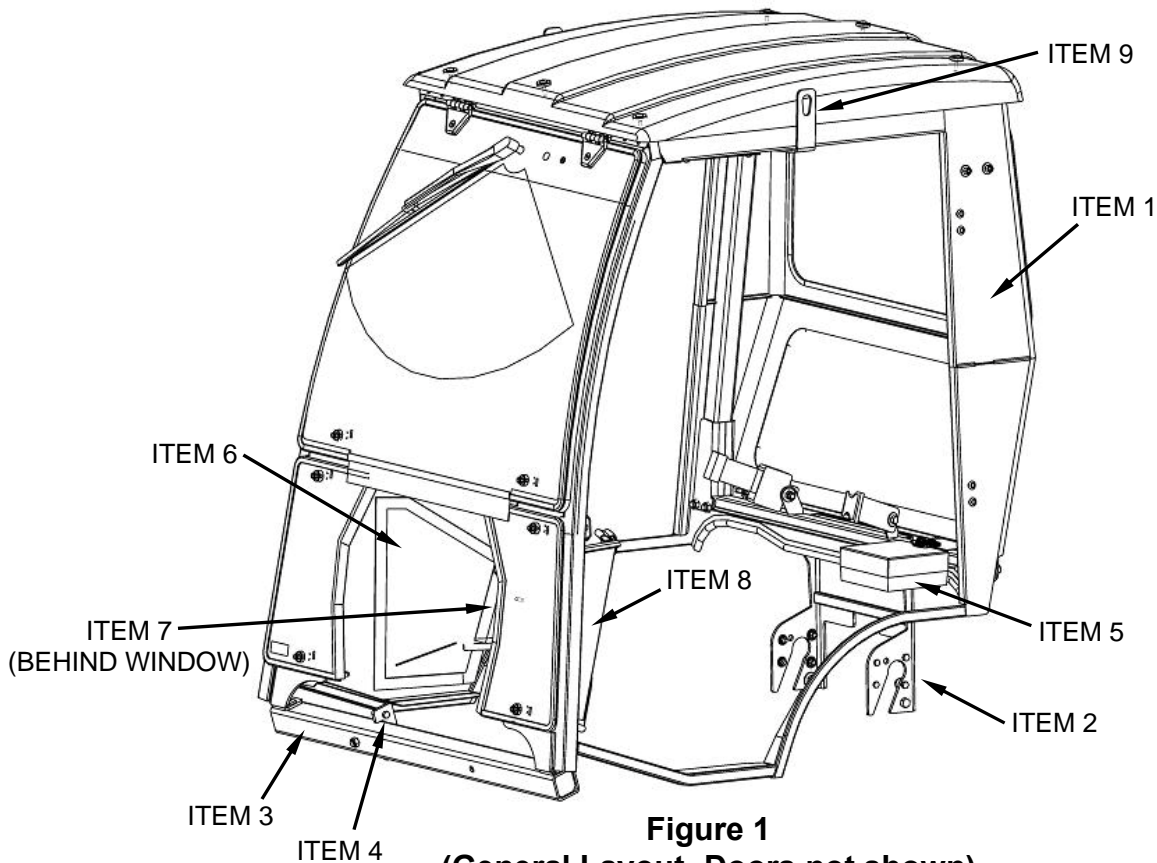

Figure 1
Read these instructions and identify all components. Please retain these instructions for future reference and parts ordering information. Refer to kit components and figure 1 for general layout.
- 1) Open mounting kit box and layout parts. Refer to figure 1 for parts identification and part numbers.